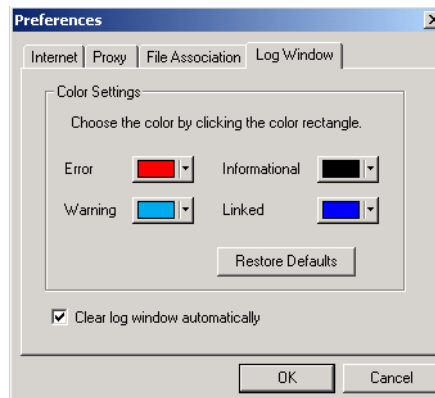

Figure 2-9. Log Window Tab
2. Click the **Log Window** tab, as shown in Figure 2-9